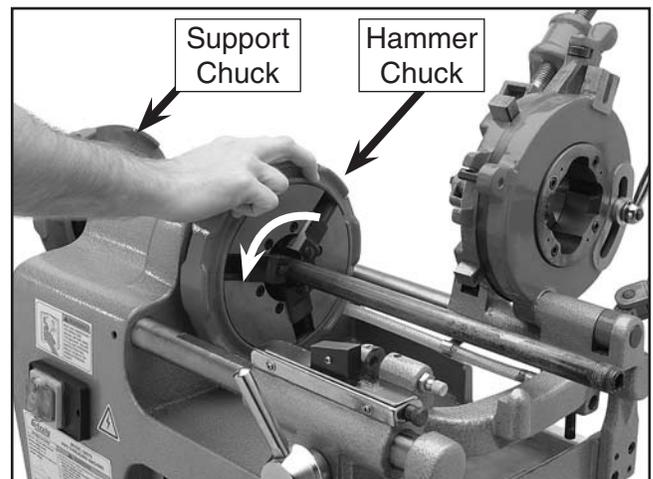

Figure 8. Slamming hammer chuck to lock it on the pipe.
3. Close the hammer chuck until it grips the pipe evenly with all jaws, then open it about a $\frac{1}{4}$ - $\frac{1}{2}$ turn, and slam it closed, as shown in **Figure 8**, to lock the chuck on the pipe.